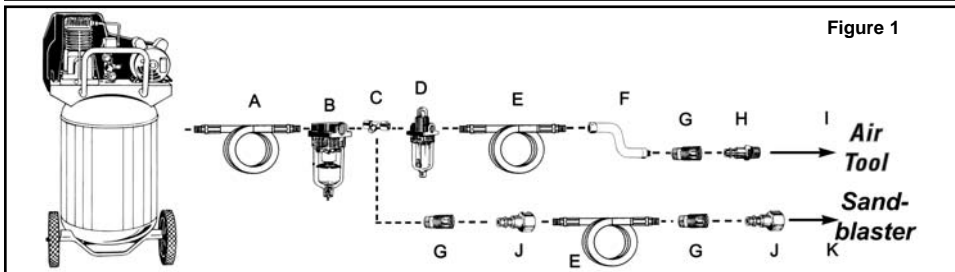

Figure 1
- As a standard practice, drain water from the air compressor tank and air lines prior to use each day (reference your compressor operators manual for detailed instructions). **IMPORTANT: Installation of appropriate water/oil removal equipment is recommended. Failure to do so will cake the abrasive material and clog the sandblasting gun, causing the gun to not operate (follow the recommended installation for the sandblaster in Figure 1).**
- Connect the tool to the air hose quick coupler. **NOTE: It is recommended that a whip hose with a swivel (P012-0079SP - not included) be used to prevent twisting, kinking and excessive wear to the air hose (ref. item "F" in figure 1 for recommended connections).**